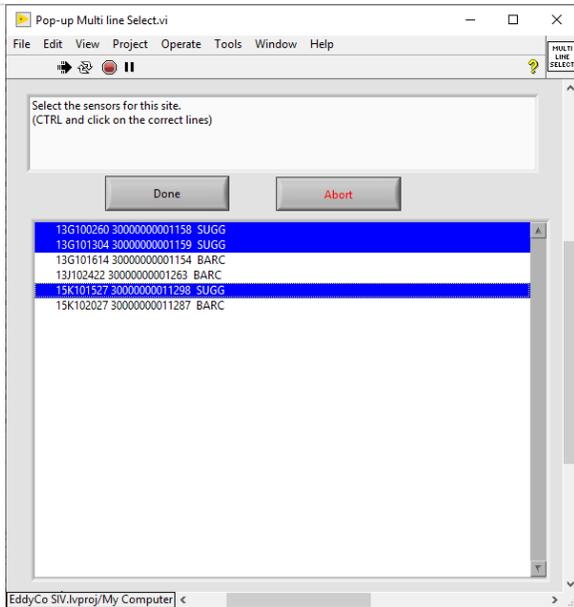

Figure 147. For the first site, select the files for the site you identified in Step 5
**STEP 7.1 | For Multi-Site Selection Only:** Select the site files that match with the site selected in Step 5. Hold the **“Ctrl”** button on your keyboard and use your cursor to select the data files for the first site (**Figure 147**).